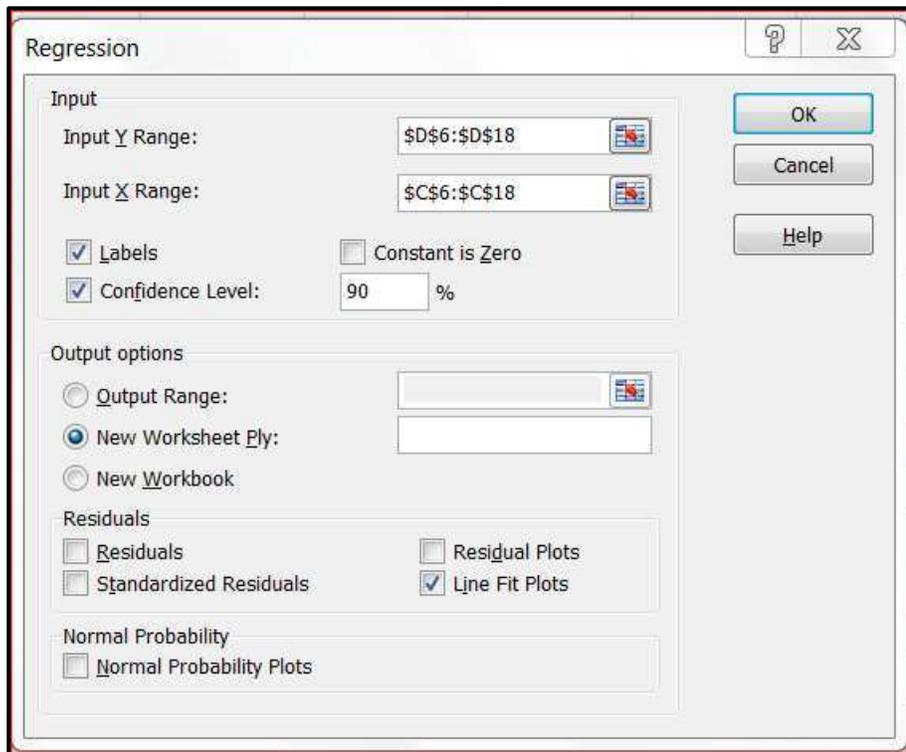

Figure 4
7. If your Regression dialog box matches the one shown in Figure 4, click on OK to have Excel perform the regression analysis, write the summary and residual output tables to the output range, and create the line fit plots chart.